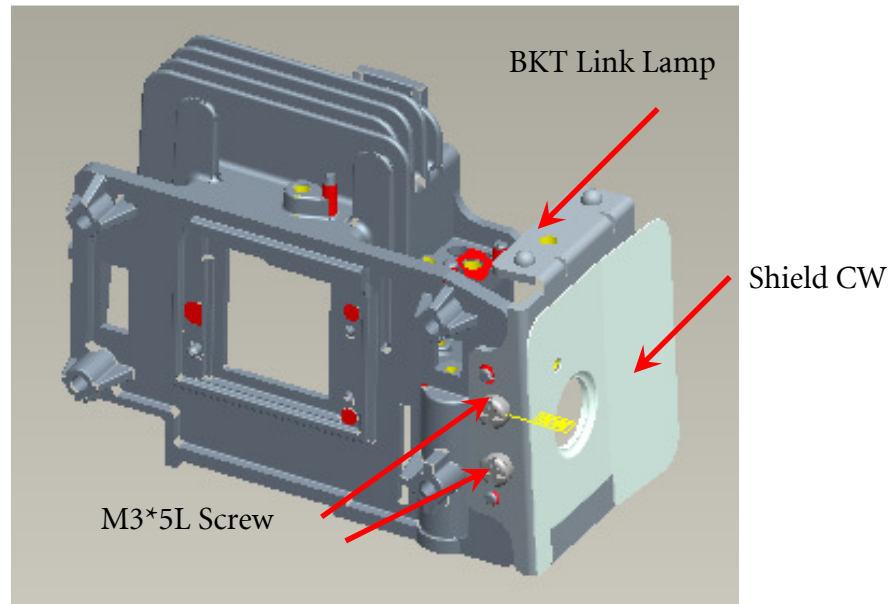

Fig. 6-1
6.1 Assemble “BKT Link Lamp & CW shield” on “DMD HSG” and then lock with screws well (Fig. 6-1)..